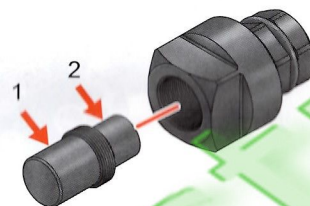

Fig.3
3. Crankshaft Adjuster (Part No.A) consists of two parts, an adjuster body and a location dowel. (Fig.3)